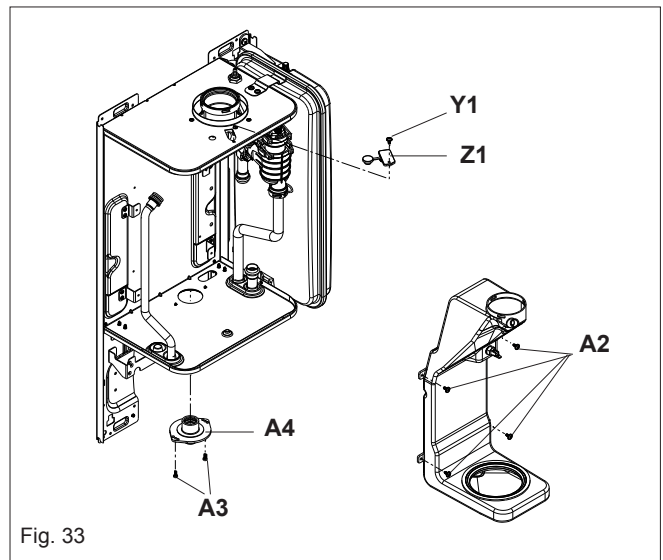

Fig. 33
## 6.20 FLUE COLLECTOR REMOVAL (fig. 33)
Isolate the appliance from the electrical supply and remove the appliance casing as described in 4.7.1. Restore the electrical supply to the boiler and switch the boiler to the OFF mode. Have access to the printed circuit board, locate and open the closing plug on the dash board (L2), locate and press the CO button (see fig. 36 pos. SW1). Press the button the number of times according the function requirement as par 7.3.1. Set the flue gas analyser to read CO2, allow the burner to stabilise and insert the probe into the flue analysis test point (Y1-Z1 fig. 33). The appliance will operate in CO2 mode for approximately 15 minutes.
- Insert the flue gas analyser probe into the flue gas test point (see fig. 33) and compare the values with those shown in section 2 (Nat. Gas) or section 9 (LPG). If different adjust the gas valve according to 7.3.1, 7.3.2, & 7.3.3.